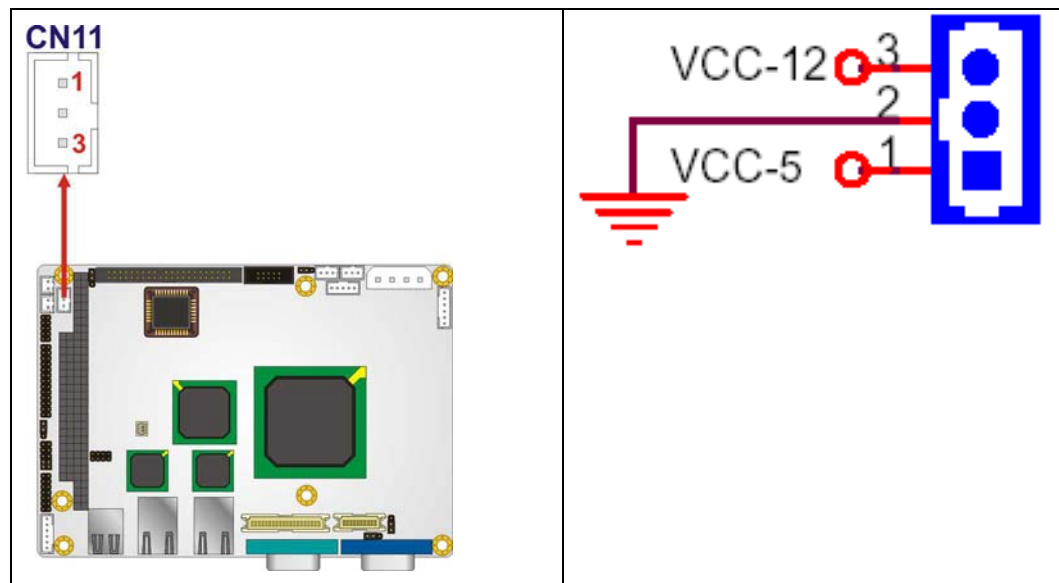

Figure 4-19: PC/104 Power Input Connector Pinouts
- CN Location:** See Figure 4-19